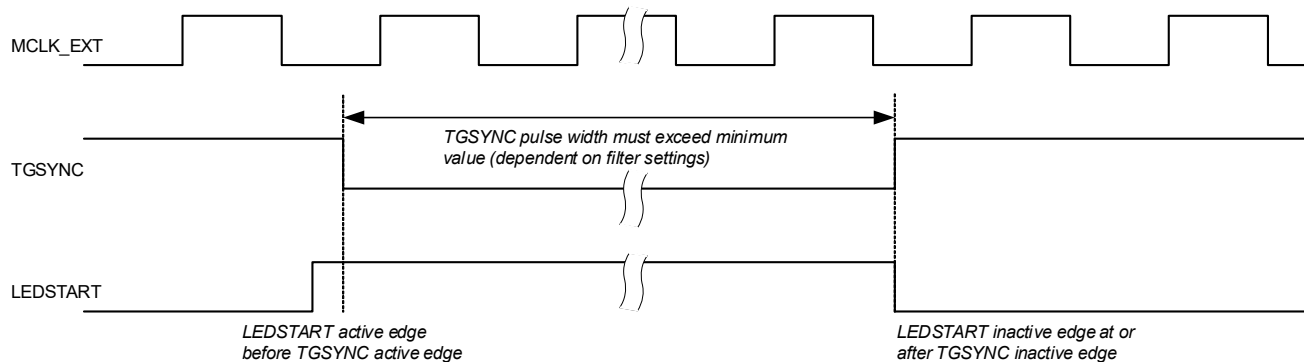

Figure 4-56. TGSYNC/LEDSTART Timing—External Mode
- If the TGSYNC filter is enabled, the timing requirements are as illustrated in Fig. 4-56.